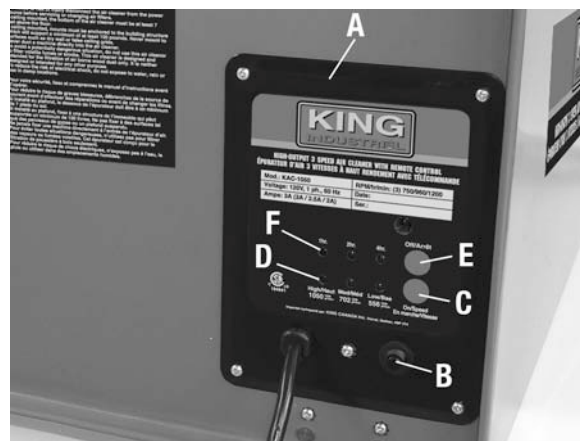
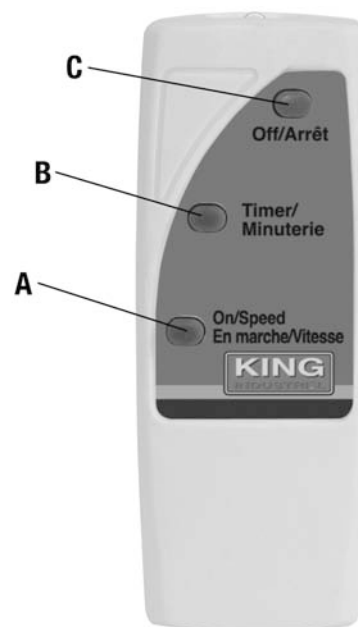

FIGURE 7
FIGURE 8
The control panel (A) Fig.7 allows you to manually turn the air cleaner On or Off and set the motor/fan speed.
Thermal overload protector: When the motor is overloaded the reset button (B) Fig.7 will trip and the motor will turn off. See Electrical Information for more information.
On/Speed button: (C) Fig.7 The On/Speed button turns the air cleaner On, it also controls the three different motor/fan speed settings (low, medium, high). Press the On/Speed button repeatedly to cycle through the speed settings. The selected speed is indicated by the red LED indicators (D) Fig.7.
Off button: (E) Fig.7 The Off button turns the air cleaner Off.
On/Speed button: (A) Fig.8 The On/Speed button on the remote control turns the air cleaner On, it also controls the three different motor/fan speed settings (low, medium, high). Press the On/Speed button repeatedly to cycle through the speed settings. The selected speed is indicated by the red LED indicators (D) Fig.7 on the control panel.
Timer button: (B) Fig.8 controls the three different settings which are:
1H- The 1hr. LED indicator (F) Fig.7 on the control panel will light up with one press of the timer button. The air cleaner will operate for 1 hour and then will shut off automatically.
2H- The 2hr. LED indicator (F) Fig.7 on the control panel will light up by pressing the timer button two times. The air cleaner will operate for 2 hours and then will shut off automatically.
4H- The 4hr. LED indicator (F) Fig.7 on the control panel will light up by pressing the timer button three times. The air cleaner will operate for 4 hours and then will shut off automatically.
Off button: (C) Fig.8 The Off button turns the air cleaner Off.